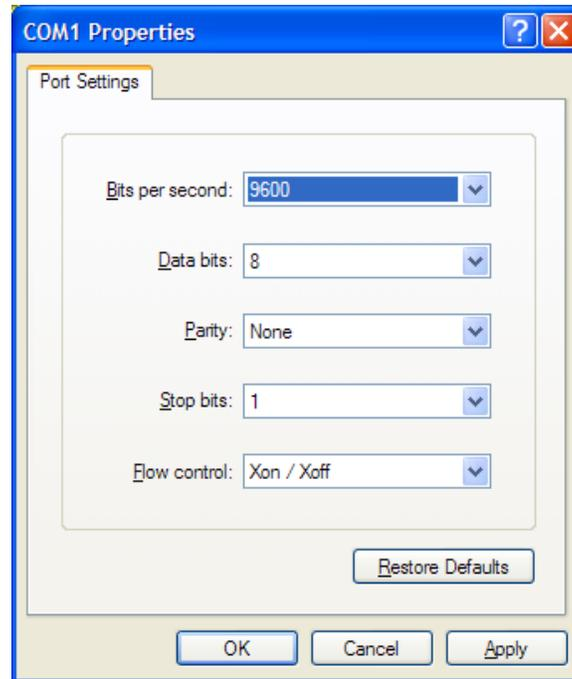

Figure B-3. COM Properties Dialog Box
- a. Make the following selections using Figure B-3 as a guide: